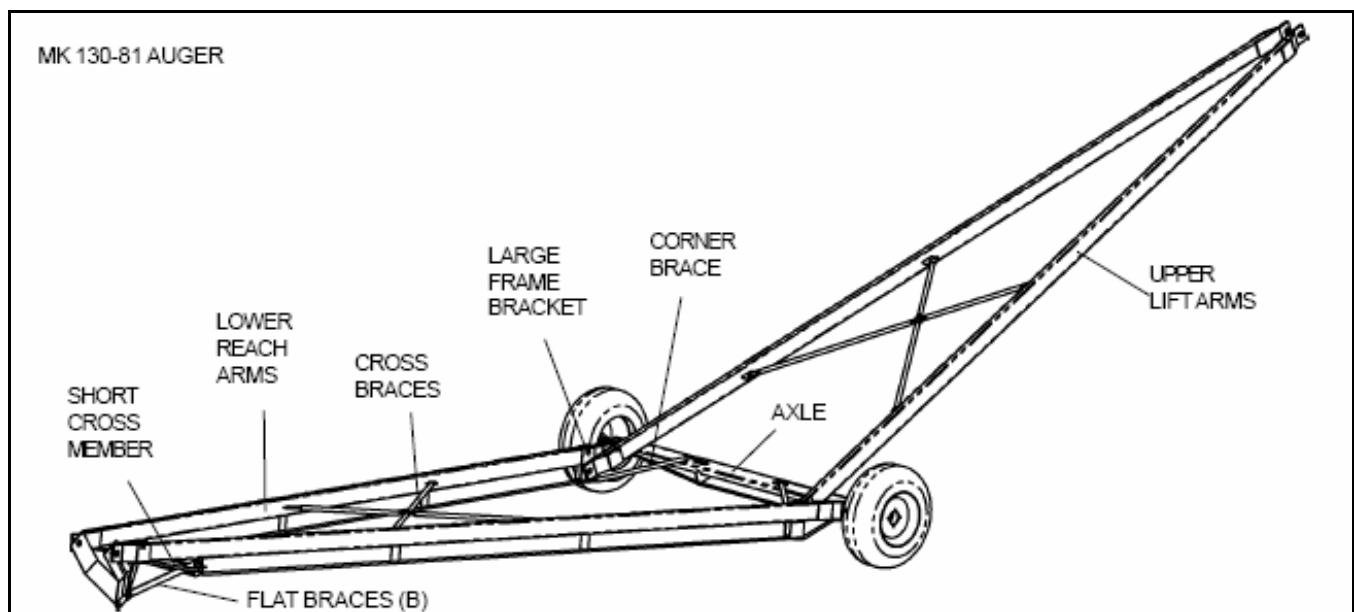

Figure 3.16 MK130 81'
2. Attach long crossmember to bottom of large frame brackets (Figure 3.16) with two 5/8" x 1-1/2" bolts and locknuts.
*The MK130 Plus 81' auger does not have a long tubular crossmember. Instead, install 2 corner braces as seen in Figure 3.16.*
3. Loosely attach short channel crossmember to small frame brackets with two 5/8" x 2" bolts and locknuts, sandwiching the flatbraces (B) between the short crossmember and small frame brackets on each side (Figure 3.16). Leave loose until step 8.